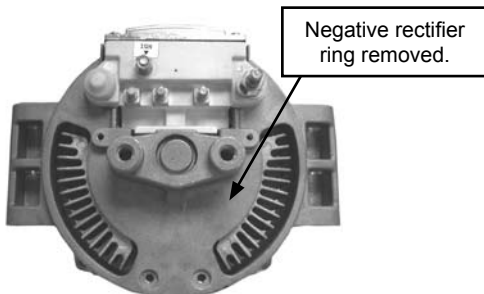

Fig 3
See Fig 3.
Step 3: Remove positive rectifiers from rear housing. See Fig 3.